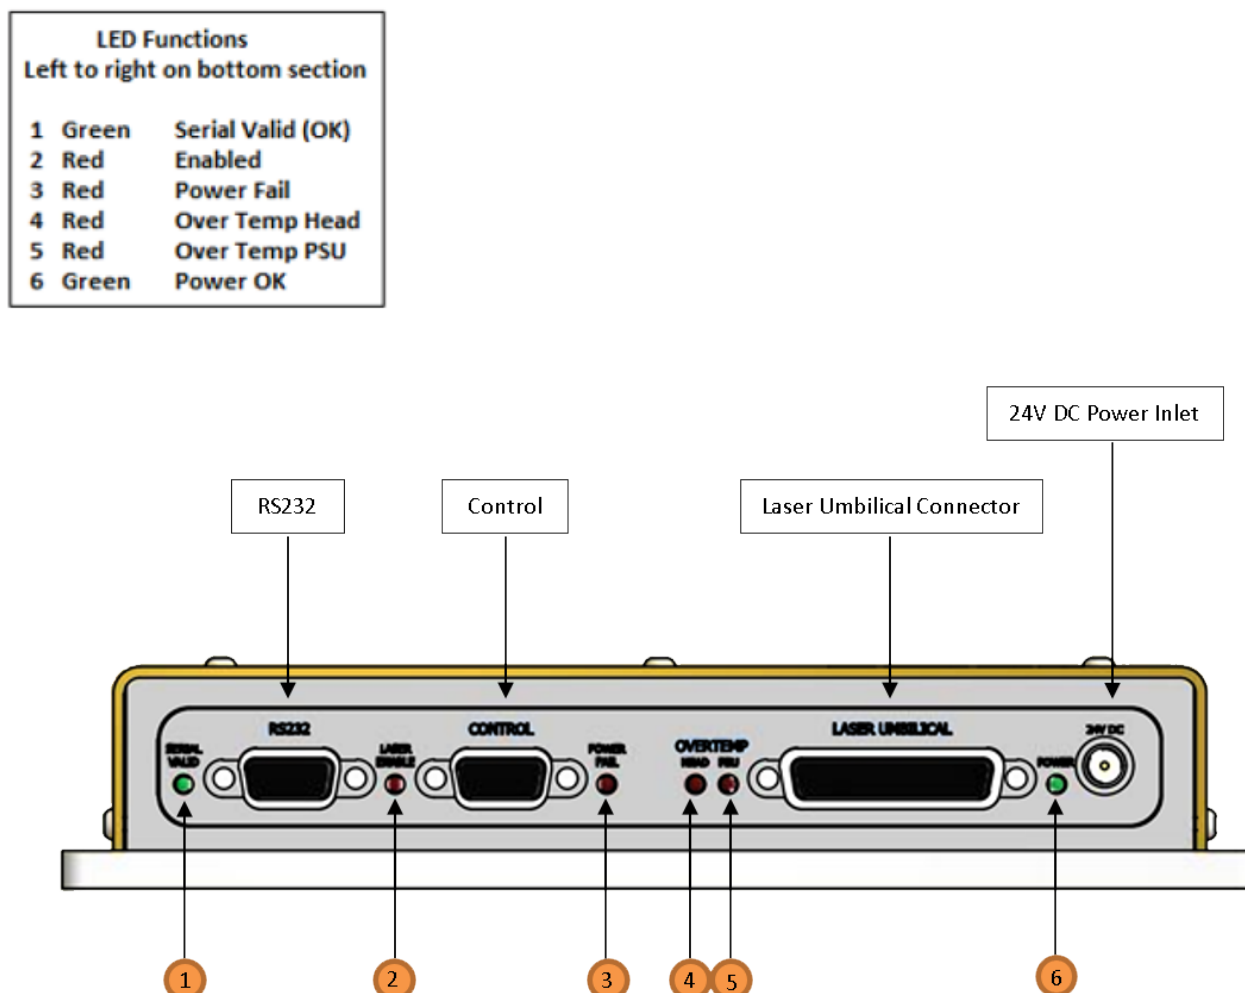

Figure 4-1
- 4 The analogue Control port (see Figure 4-1) is multi-functional as it has connections for Interlock, Enable Switch and Laser Power Control/Modulation. The Interlock must be closed to allow the laser to operate, and this can be achieved using the supplied red-spot Interlock Dongle.
The **MPC32** can be operated directly via the control port (see Figure 4-1) by applying 0 to 5 V in accordance with the diagrams in this section.